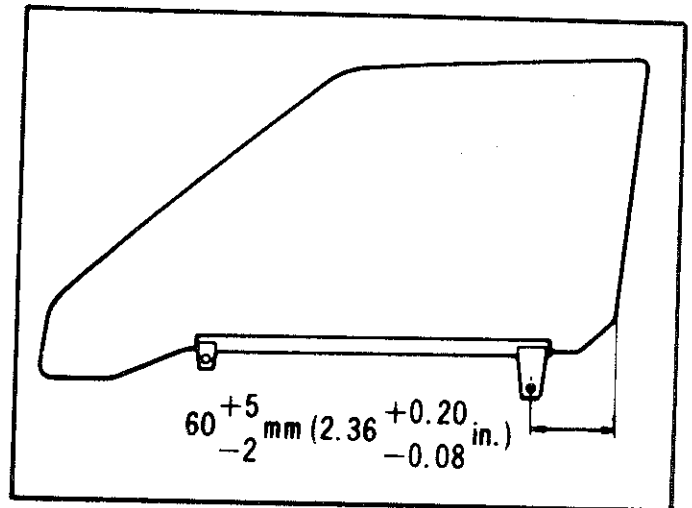

Fig. 3—Front door glass holder position
(1) Lubricate all rotating and sliding parts with grease prior to installation.
(2) If the glass holder has been removed, ensure it is correctly positioned onto the glass prior to installation, Refer Figs. 3 and 4. A heat resistant drying adhesive should be used on the glass holder.